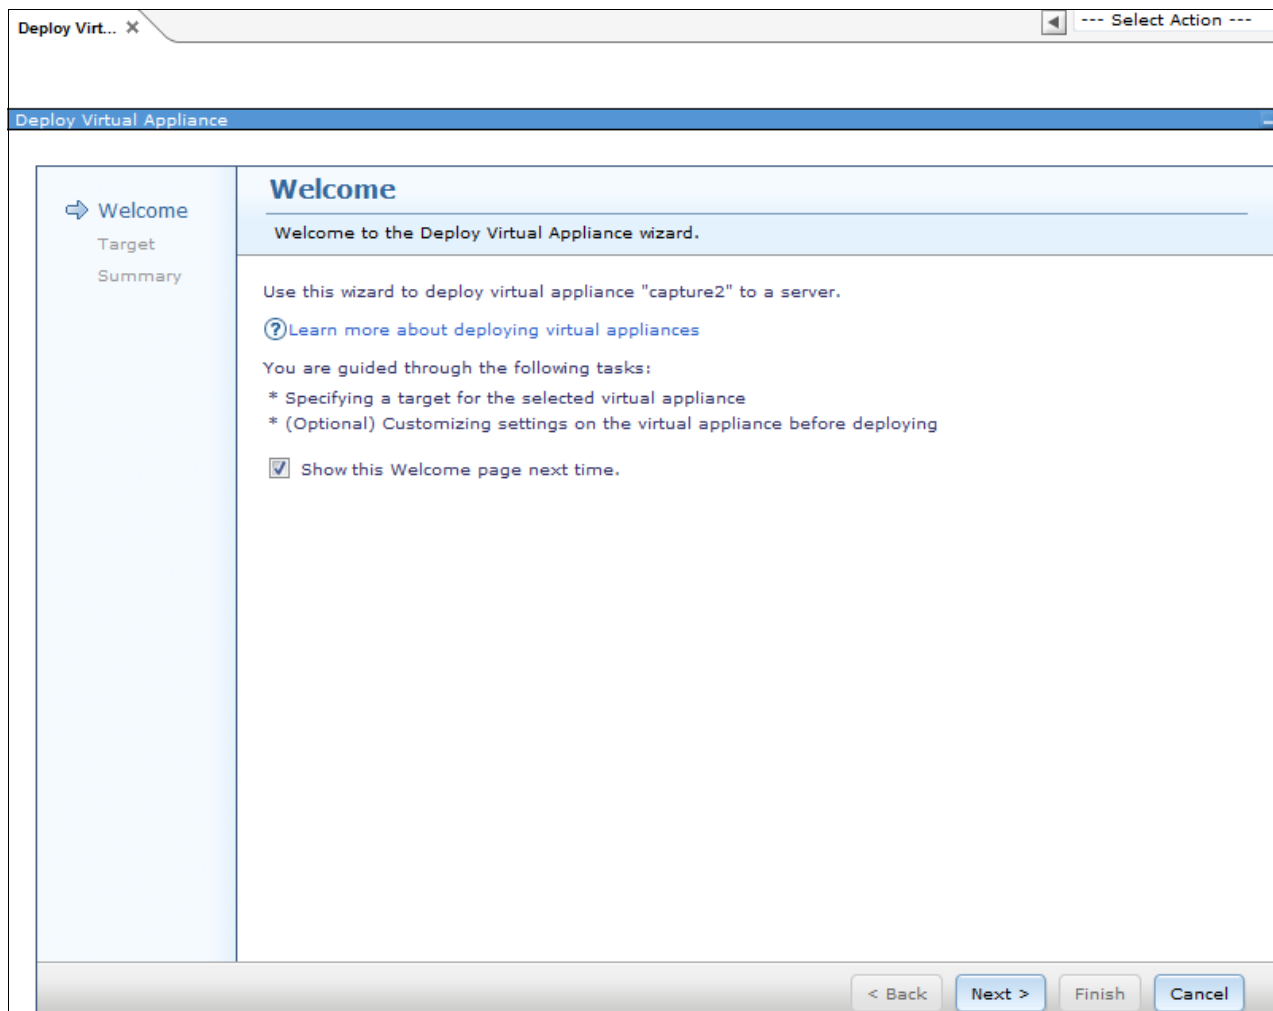

Figure 3-90 Deploy Virtual Appliance wizard: Welcome
22. The captured virtual appliance now must be deployed by using VMControl on Flex System Manager. Click **Deploy Virtual Appliance**. A new wizard starts with a Welcome page, as shown in Figure 3-90. Click **Next**.